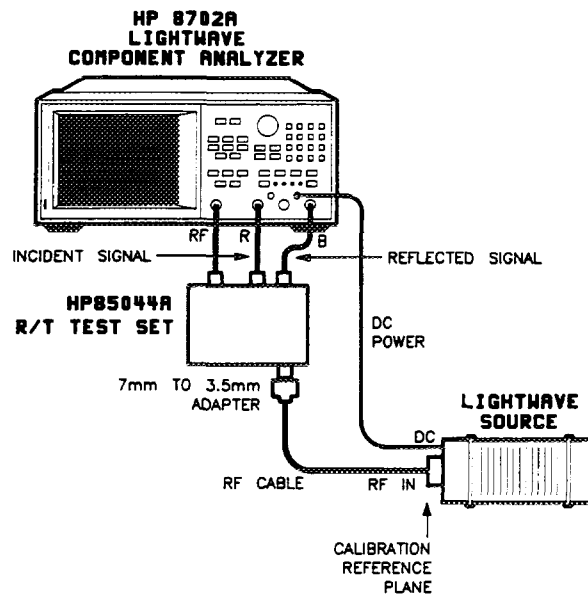

Figure 10. Test Setup
1. Connect the test system as shown in Figure 10.